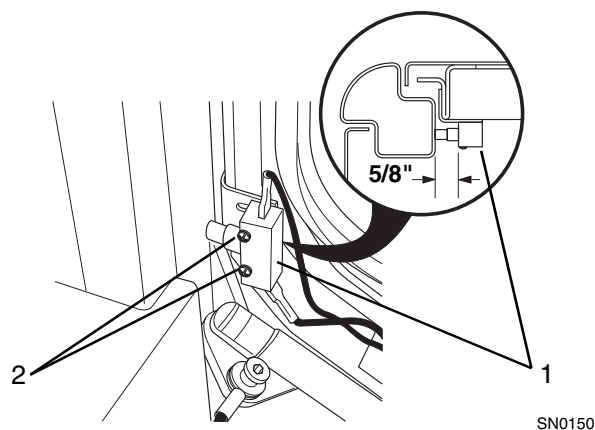

Figure 9-75 Front Door Loader Lockout Switch
- v. Adjust the loader arm lockout door switch (Fig. 9-75, 1). With the cab door closed and latched, loosen the two mounting screws (2). The switch (1) makes an audible clicking sound when it is engaged and the lockout circuit is closed. With the mounting screws loosened, slide the switch on the mounting bracket until you hear the switch engage. There should be approximately 5/8" (16 mm) distance between the Operator's Protective Structure and the left side of the switch (1).